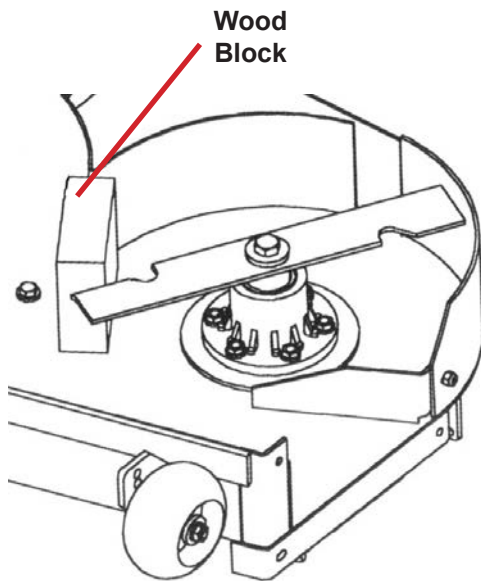

Figure 8
6. Check mower blades by lifting deck and secure in raised position with jack stands or equivalent support. Inspect blades and sharpen or replace as required. Re-install the blades by placing a block of wood between the front or rear baffles and the blade (see Figure 8), then torque the blade bolts to 115-120ft-lbs. Be sure the spring disk washer cone is installed toward the bolt head.